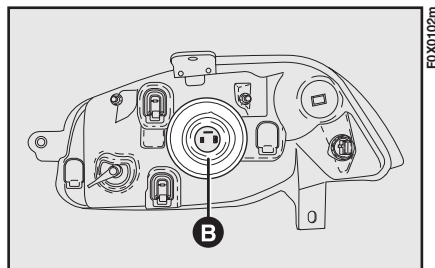

fig. 121
- remove rubber gaiter B-fig. 121;